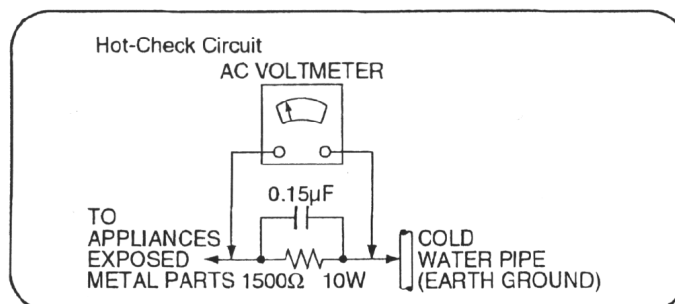

Fig. 1
4.1.2. LEAKAGE CURRENT HOT CHECK (See Figure 1.)
2. Connect a 1.5k Ω , 10 watts resistor, in parallel with a 0.15 μ F capacitor, between each exposed metallic part on the set and a good earth ground such as a water pipe, as shown in Figure 1.